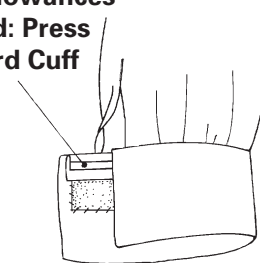

Fig. 11-8
5. Grade the seam allowances. Press the seam allowances toward the cuff. (Fig. 11-8)